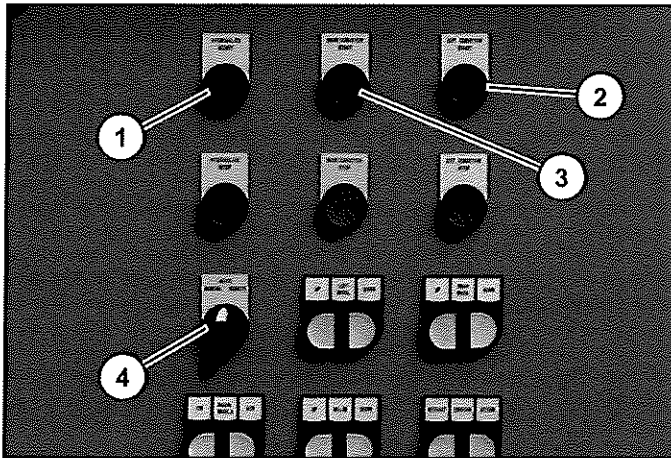

Figure 72
9. On the electrical panel, push the hydraulic pump start button (Item 1) (Figure 72) to start the hydraulic system.
10. Push the extension (stinger) conveyor start button (Item 3) (Figure 72) to start the extension conveyor belt.
11. Push the main conveyor start button (Item 2) (Figure 72) to start the main conveyor belt.
12. Turn the switch to the auto position (Item 4) (Figure 72).